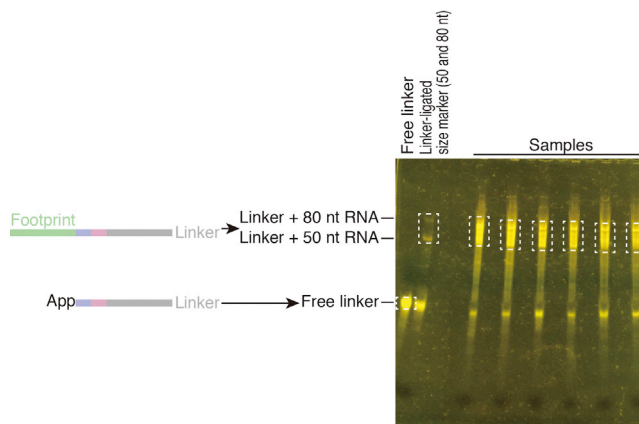

Figure 5. A Representative Gel Image for Linker-Ligated Footprints
61. Gel-purify the linker-ligated RNA as described in steps 42–54. Add the following free linker control in the gel-purification step. See Figure 5 for a representative result.